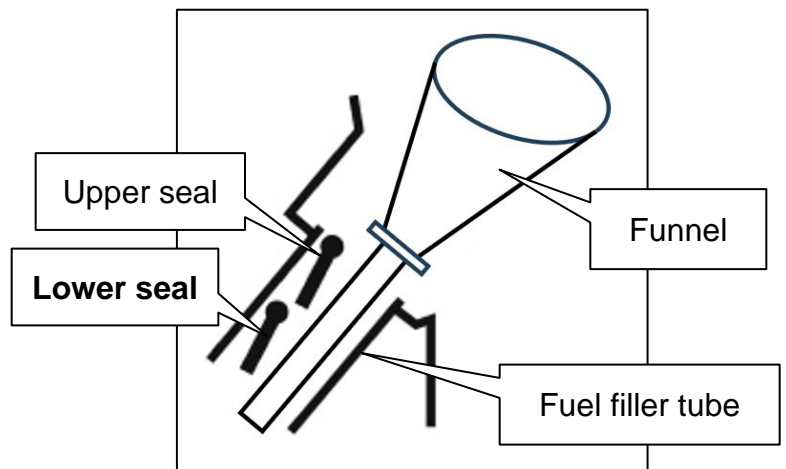

Figure 5
HINT: The funnel must be inserted and removed completely to open and close the lower seal inside the fuel filler tube (Figure 5).
3. Re-check the fuel filler tube lower seal (Figure 5 on page 3) for leaks with the smoke machine to determine visually if any leak is present from the lower seal.